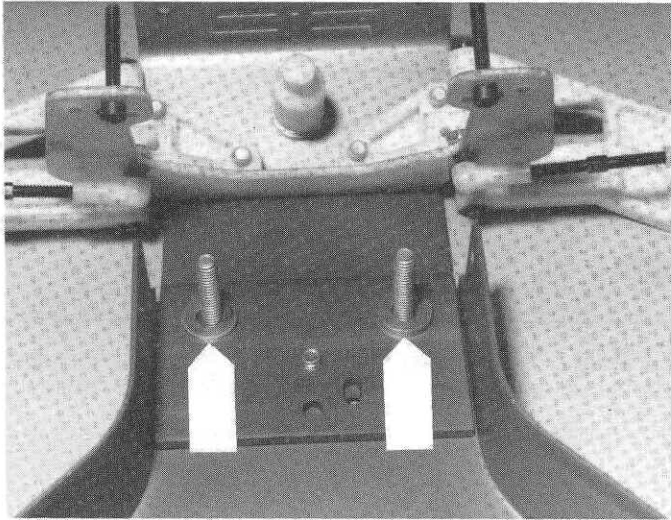

Fig. 22
- Fig. 22** Take the 2 thick washers out of the same bag, and put them on the 2 screws, as shown.